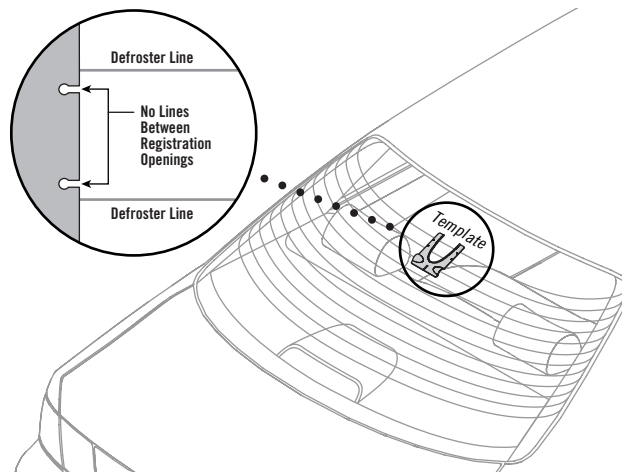

Figure 8. Positioning an Installation Template on a vehicle's outside rear window. Note the orientation and position to avoid defroster lines.
3. Lightly position an Installation Template on the vehicle's outside window so that no defroster or antenna lines are visible between the registration openings, as shown in Figure 8 below.